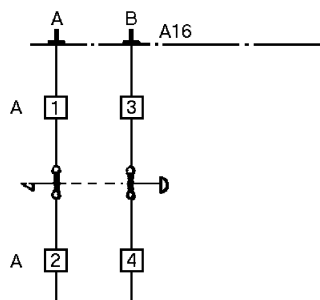

Fig 11
- External emergency stop, see fig 11 on page 11.